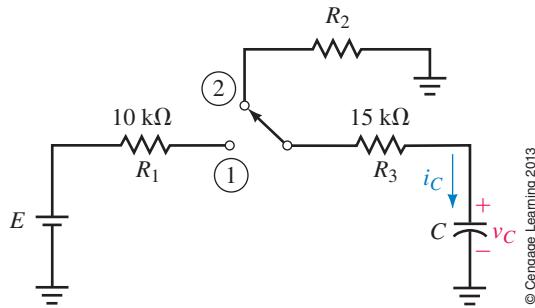
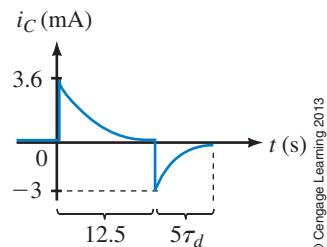

FIGURE 11-54
FIGURE 11-58
32. Consider again Figure 11-54. Suppose $E = 80 \text{ V}$, $R_2 = 25 \text{ k}\Omega$, and $C = 0.5 \mu\text{F}$:
33. For the circuit of Figure 11-54, the capacitor is initially uncharged. The switch is first moved to charge, then to discharge, yielding the current shown in Figure 11-58. The capacitor fully charges in 12.5 s. Determine E , R_2 , and C .